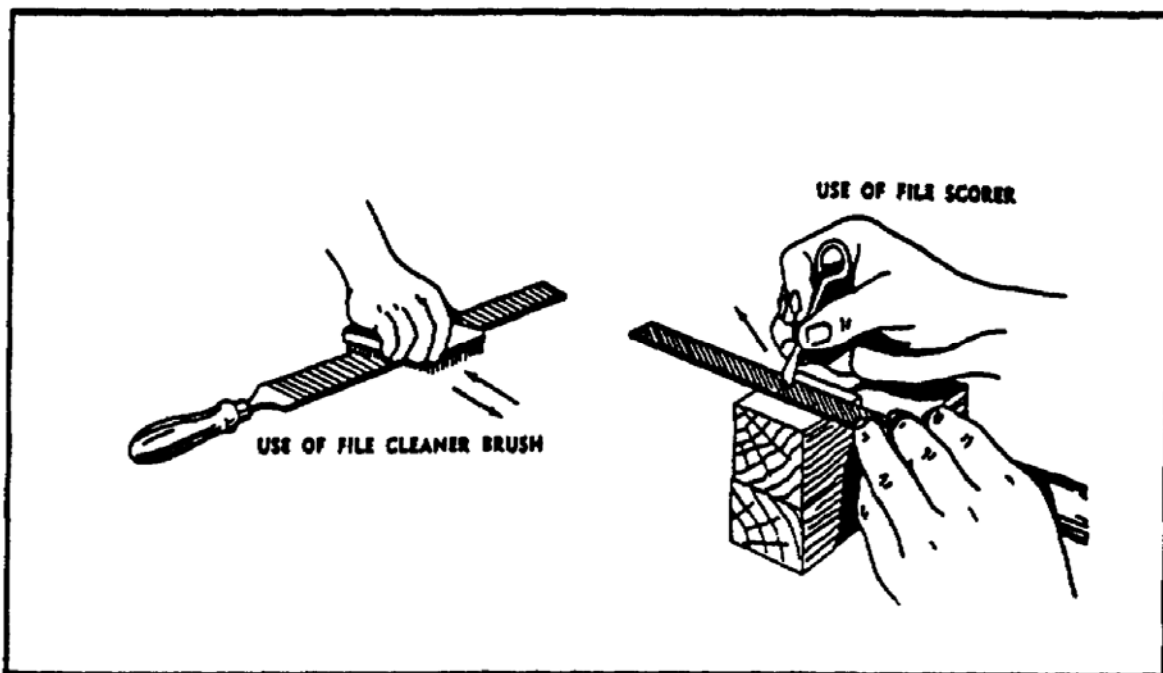

FIGURE 101. CLEANING A FILE.
(2) *Cleaning.* After using a new file, the teeth will clog up with metal filings. Using a clogged file will scratch the work--this condition is called pinning. One way to help prevent pinning is by rubbing chalk between the teeth before filing. However, the best method of keeping a file clean is to use a file scorer and file cleaner brush (figure 101). A scorer is a small pointed metal instrument, often furnished with the file cleaner brush. It is used for cleaning out individual teeth and grooves in the file if they become clogged too tightly with metal to clean with the brush. When cleaning a file with a file scorer, use a pulling motion, holding the file scorer blade parallel to the rows of teeth. Finish cleaning by brushing the file parallel to the rows of teeth with the file cleaner brush.